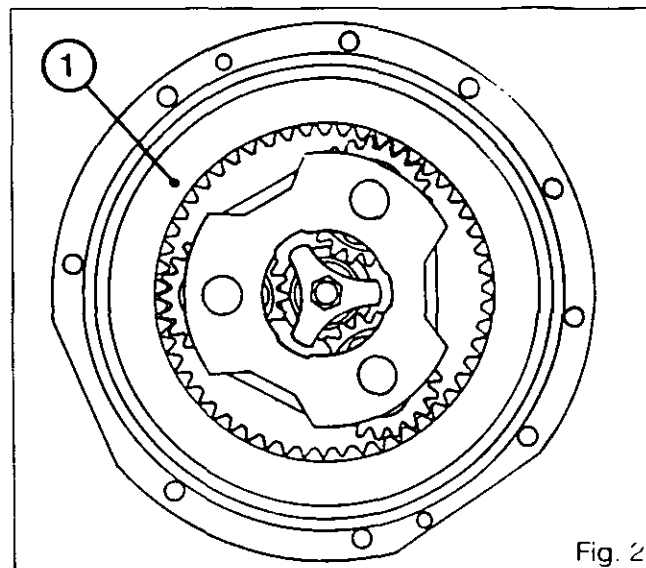

Fig. 2
4. Remove the backplate (1) (trumpet housing interior) (Fig. 2).